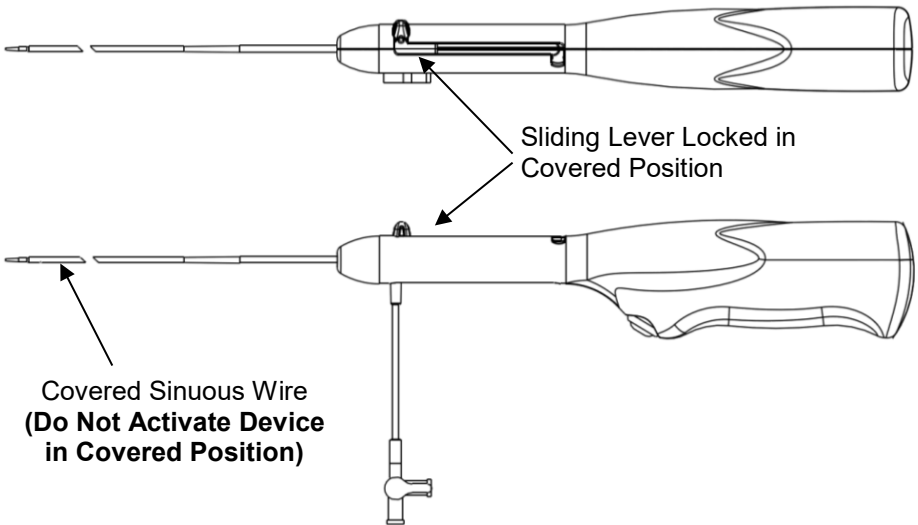

Figure 3
9. Place the device in the covered position by pushing the sliding lever to the distal position and rotating the sliding lever to lock in the covered position (refer to Figure 3). When in the covered position, only the flexible tip of the sinuous wire should extend from the catheter. **Warning: The device should not be activated in the covered position.**
9. Place the device in the covered position by pushing the sliding lever to the distal position and rotating the sliding lever to lock in the covered position (refer to Figure 3). When in the covered position, only the flexible tip of the sinuous wire should extend from the catheter. The device should not be activated in the covered position.